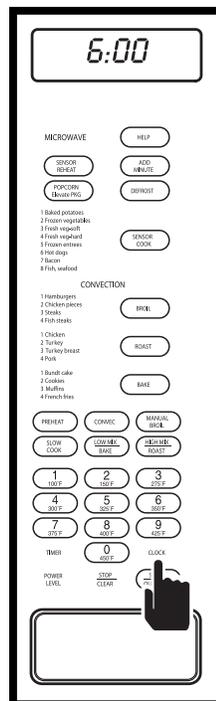

Figure 3-48. Press CLOCK Key
4. Press CLOCK key, "ENTER - COOKING - PROGRAM" will flash on display (See Figure 3-48).